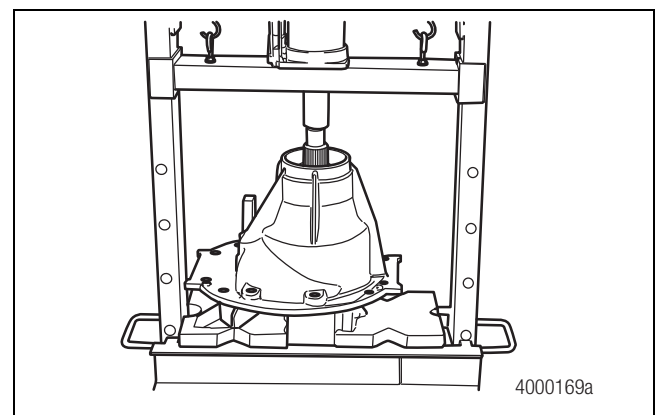

Figure 3.23
6. Place the carrier assembly in a press with the threaded end of the pinion shaft pointing UP. Figure 3.23.
7. Press the pinion shaft out of the outer bearing cone. Do not let the pinion shaft drop to the ground after being pressed out. Figure 3.23.